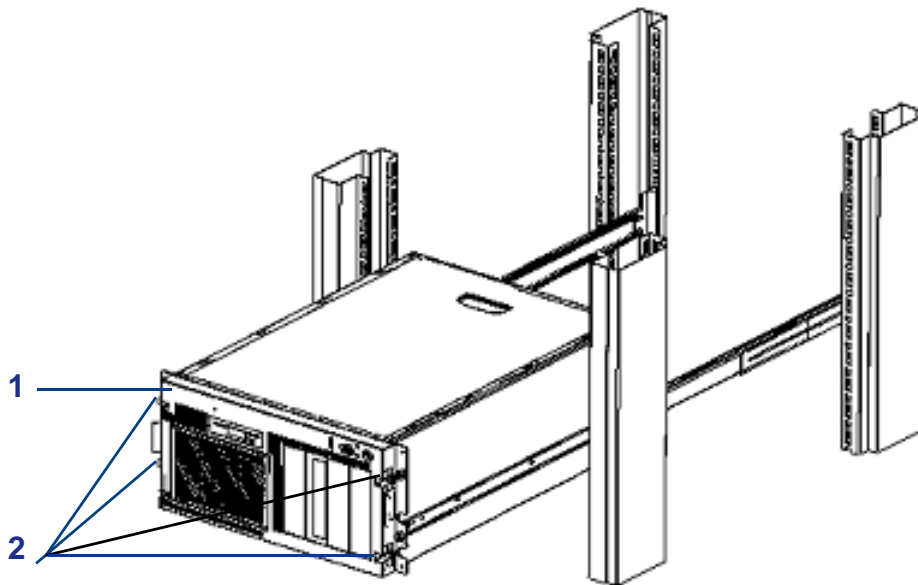

Figure 31: Securing the Server
1. Loosen the four captive thumbscrews on the front of the server (See Figure 31: Securing the Server).